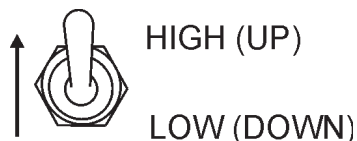

Figure 69. Engine Speed Switch (High)
29. Set the engine speed switch (Figure 69) to the **"HIGH"** position.